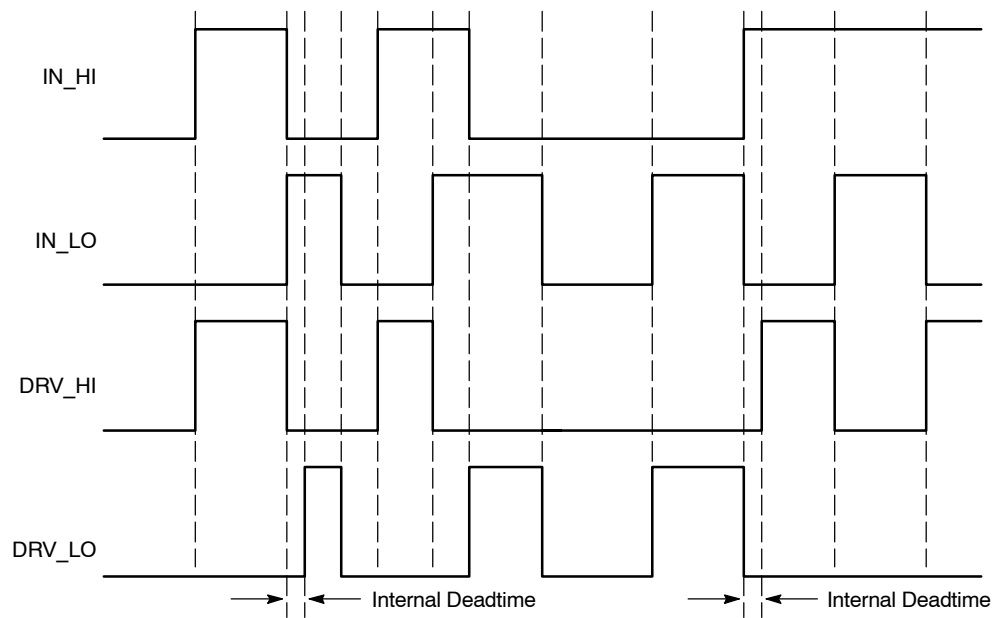

Figure 7. Input/Output Cross Conduction Output Protection Timing Diagram
- Timing diagram definition see Figure 7.